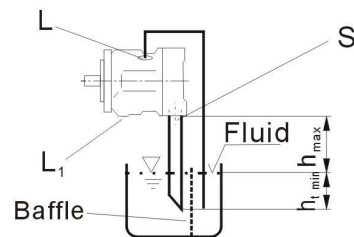

Fig.4
b) If the minimum fluid level is equal to or below the top of the pump, pipe ports "L" and possibly "S" as Fig.4.; close port "L₁".
a) When mounting above the reservoir, see fig.4. Conditions according to 1.2.1.